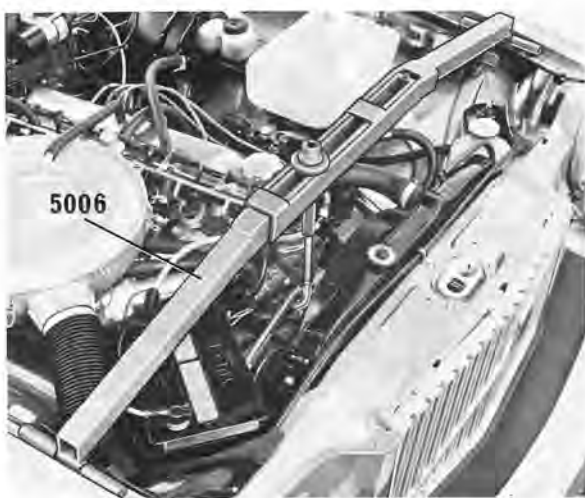

Fig. 6-14. Tool for lifting engine
1. Install the lifting tool 5006, see Fig. 6-14. Hook the tool crook under the alternator tensioning bar and as near as possible to the engine block. Raise the engine until the weight is taken off the front engine mounting. Temporarily block the vent-hole in the brake fluid container cover to reduce leakage. Remove the hub caps and loosen the nuts for the front wheels a couple of turns.